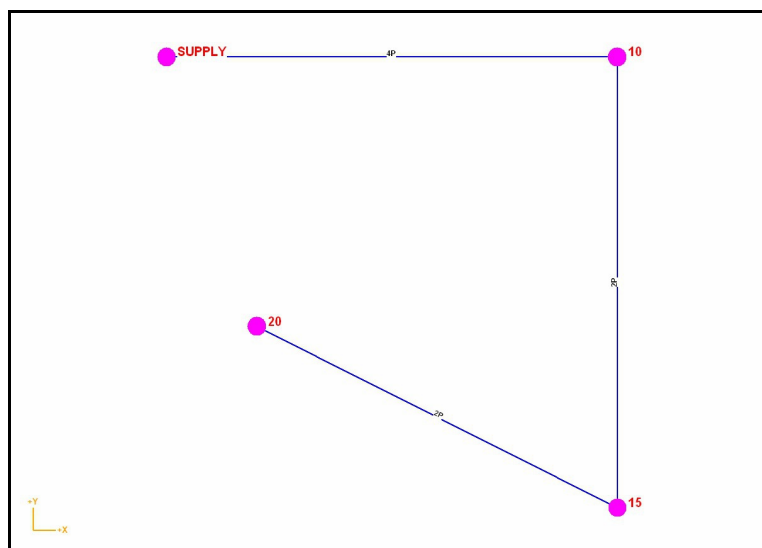

Figure 1
- For the *To Node Location*, move the mouse crosshairs to a location below **Node SUPPLY** and to the left of **Node 15** (similar to **Node 20** in Figure 1). Left-click the mouse to indicate the node's location.
After entering this pipe, the model should look similar to Figure 1.